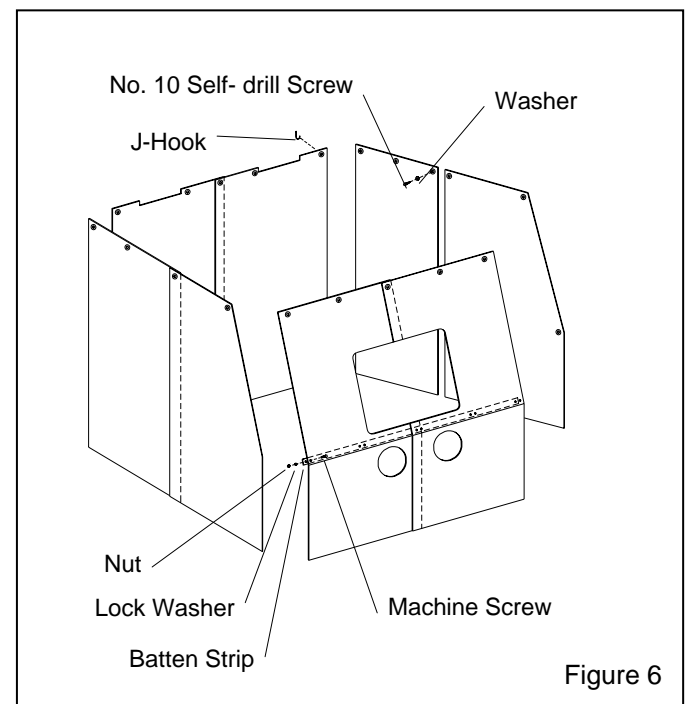

Figure 6
3.2 Curtain Installation, Figure 6
3.2.1 Match the curtains to the corresponding wall and door as shown in Figure 6. Hook the curtains to the J-Hooks welded along the top of the front, back, and side walls. Cut openings for the hoses on the lower left rear wall.
3.2.3 For front walls, place the batten strip over the curtain, and clamp it in position on the front slope above the break as shown in Figure 6. Match drill .187" (3/16") diameter holes through the rubber and cabinet front at each batten hole. To install the batten insert #10-24 x 1" round head machine screws through the cabinet front, curtain and batten. Install lock washers and nuts from inside the cabinet and tighten securely.